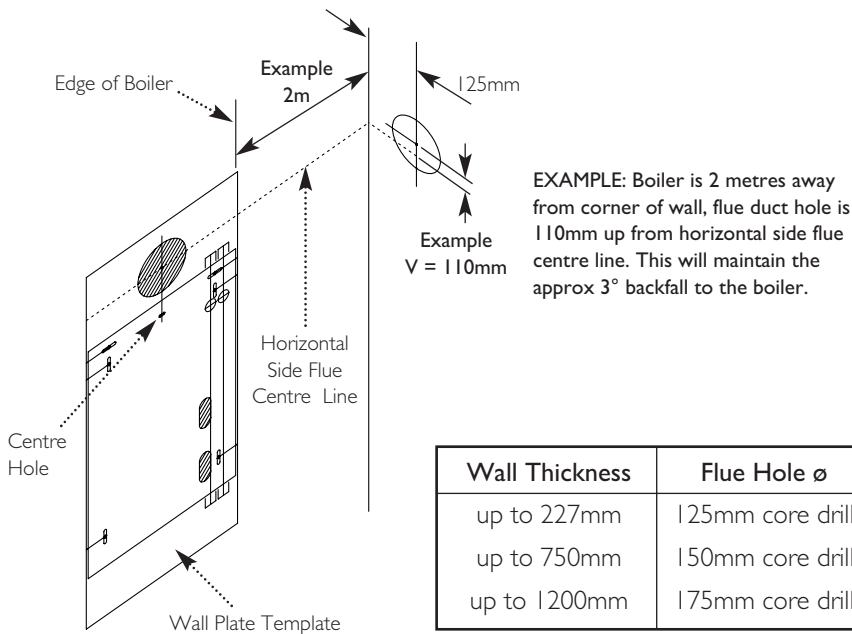

Fig. 20
1. Remove the fixing template (Fig. 20) from the carton.
3. Mark the position of the centre hole for the wall plate (Fig. 20).
For side exit: project the horizontal side flue centre line into the corner of the room and along the wall to where the flue hole will be drilled. (Fig. 20).
5. Cut the hole for the flue (minimum diameter 125mm, see table (Fig. 20) for wall thicknesses and flue diameters).